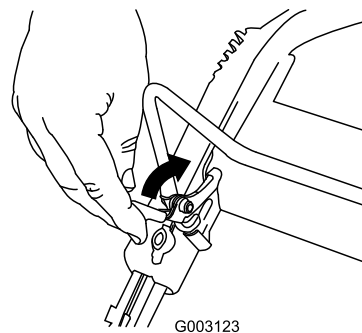

Figure 17
To shut off the engine, press and hold the engine-shutoff button (Figure 17) until the engine shuts off.
1. Pull the control-bar lock back (Figure 17).